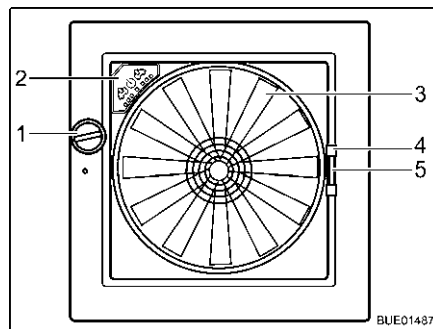

Fig. 92 Skylight Omni-Vent
- Turn the knob (Fig. 92,1) until the desired opening angle is reached.
- Turn the knob (Fig. 92,1) until the skylight is fully closed.
- Using the handle (Fig. 92,4) pull the insect screen across to the other side of the frame.
- Press together the handle (Fig. 92,5) of the shade.
Fan If the skylight is open, the interior can be ventilated with the 6-speed fan (Fig. 92,3). The fan is operated via the operating panel (Fig. 92,2).